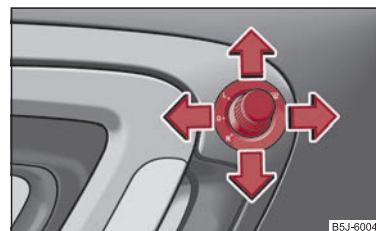

Fig. 49 Inner part of door: Rotary knob
- Turn the rotary knob to position ⇒ fig. 49.